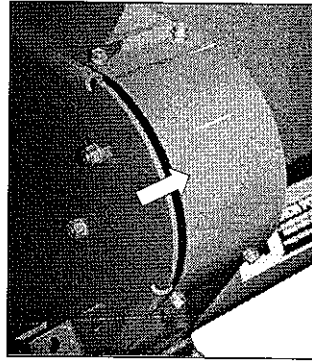
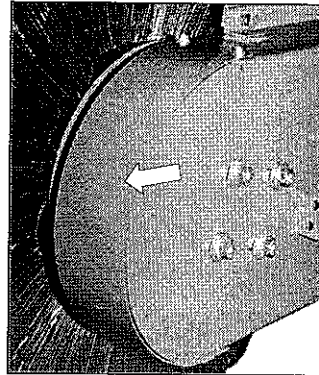

figure 30
figure 31
1. Remove front (figure 30) and rear (figure 31) chain shields from the fixed chain shield.
2. Remove front (figure 30) and rear (figure 31) chain shields.